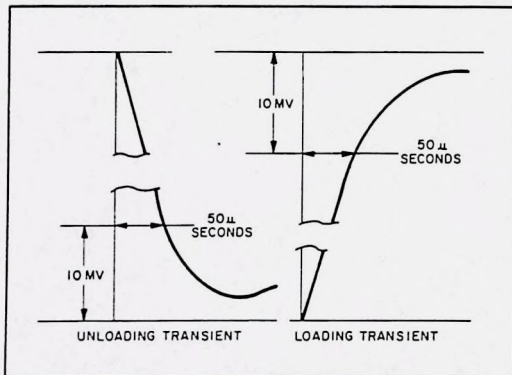

Figure 5-8. Transient Recovery Time, Waveforms
- j. Starting from the major graticule division representative of time zero, count to the right 50 μ sec and vertically 10mV. Recovery should be within these tolerances as illustrated in Figure 5-8.